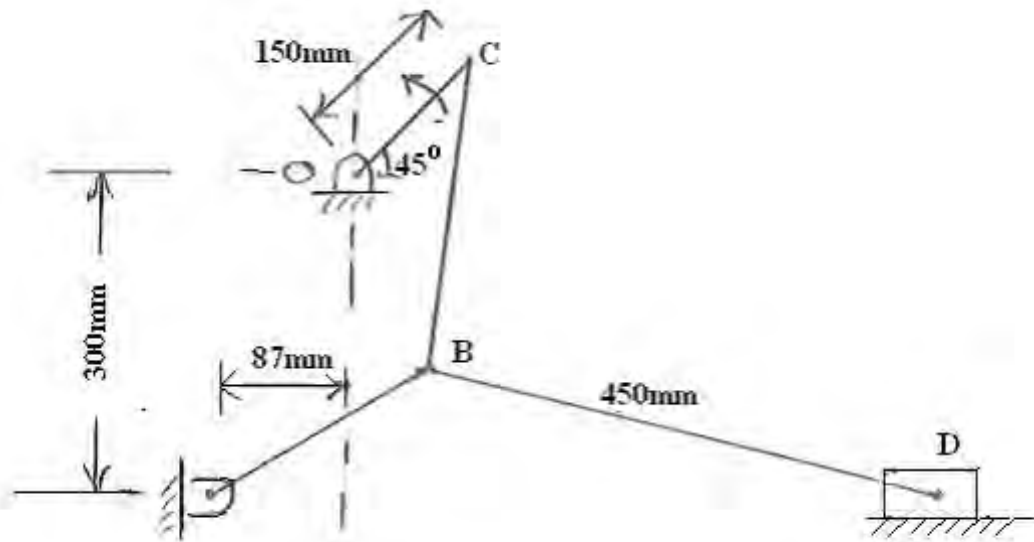

Figure 6
6. In the mechanism shown figure 6 D is constrained to move on a horizontal path. Find, for the given configuration, the velocity and acceleration of D and the angular velocity and acceleration of BD when OC is rotating in a counter-clockwise direction at a speed of 180 r.p.m., increasing at the rate of 50 rad/s^2 . [16]